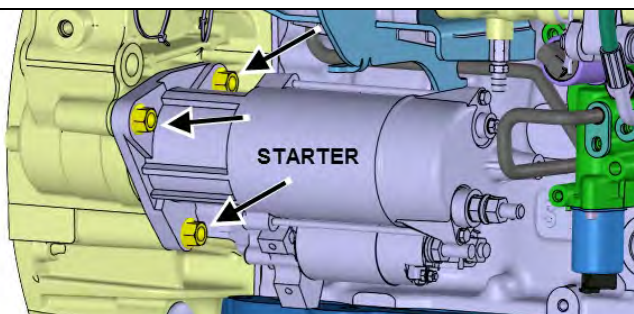

FIGURE 3
5. Using a 18mm socket, unscrew three bolts fastening the starter to the flywheel housing (FIGURE 3).